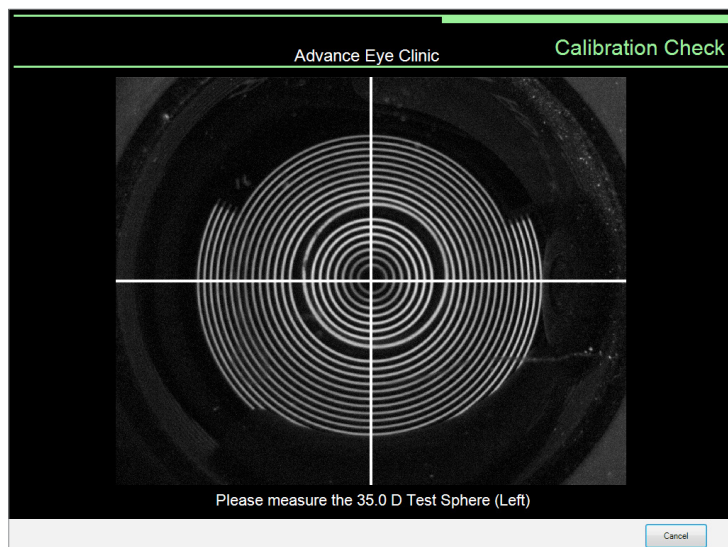

Figure 3
- Select **Tools** from the menu and then select **Calibration Check** and align the projection head by centering the crosshairs in the smallest ring of the image displayed (*Figure 3*).